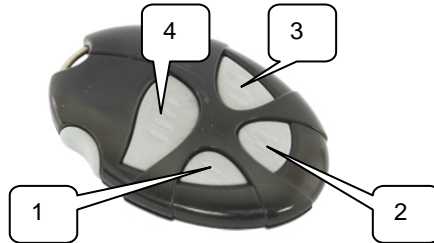

Figure 1: Button Configuration for the Impro (QT) Quad Transmitter
- When an Impro (QR) Quad Receiver is Buttons 1 to 4 on the Impro (QT) Quad Transmitter activate Relays 1 to 4 on the FlexiScan Controller. If only Buttons 1 and 2 are pressed during the "Add RF Tags" procedure then only those Buttons will be "learned" to activate the relevant Relays. Buttons 3 and 4 will have no action. Any combination is available. See Figure 1 for Button locations.